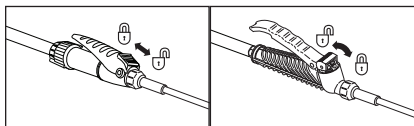

Figure 8. Apply and Release Shut-off Lock
3. For continuous spraying, squeeze the shut-off handle and either slide the lock towards you or rotate the lock towards the nozzle. To unlock, slide the lock towards the nozzle or rotate the lock towards you. See Figure 8.
- 1A. Lay the tank on its side with the hose outlet on the bottom. Direct the nozzle away from you and squeeze the shut-off handle until the unit stops spraying. This will release the pressure in the tank. See Figure 8.